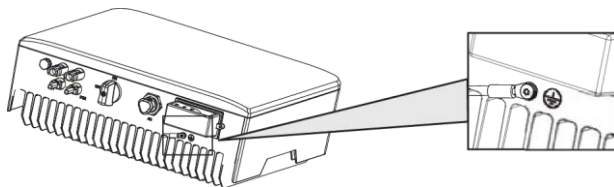

Figure 12 Protective grounding
- The inverter housing is grounded, as shown in Fig.12